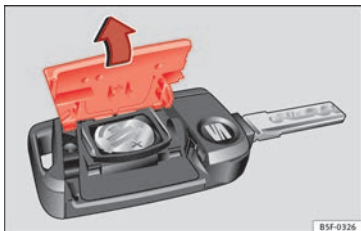

Fig. 127 Vehicle key: opening the battery compartment
- Remove the cover from the back of the vehicle key » Fig. 127 in the direction of the arrow » ①.
- Fit the cover as shown » Fig. 127, pressing it onto the vehicle key casing in the opposite direction to that shown by the arrow until it clicks into place.